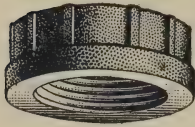

FIG. 40
**52.** A cap is shown in Fig. 40. It is used to close the end of a pipe, and consists of a hollow casting threaded inside. Some caps are made with a square projection on the back; others are plain, and others are hexagonal on the body. The cap shown has short ribs to allow the pipe wrench to get a good hold in screwing on the cap.